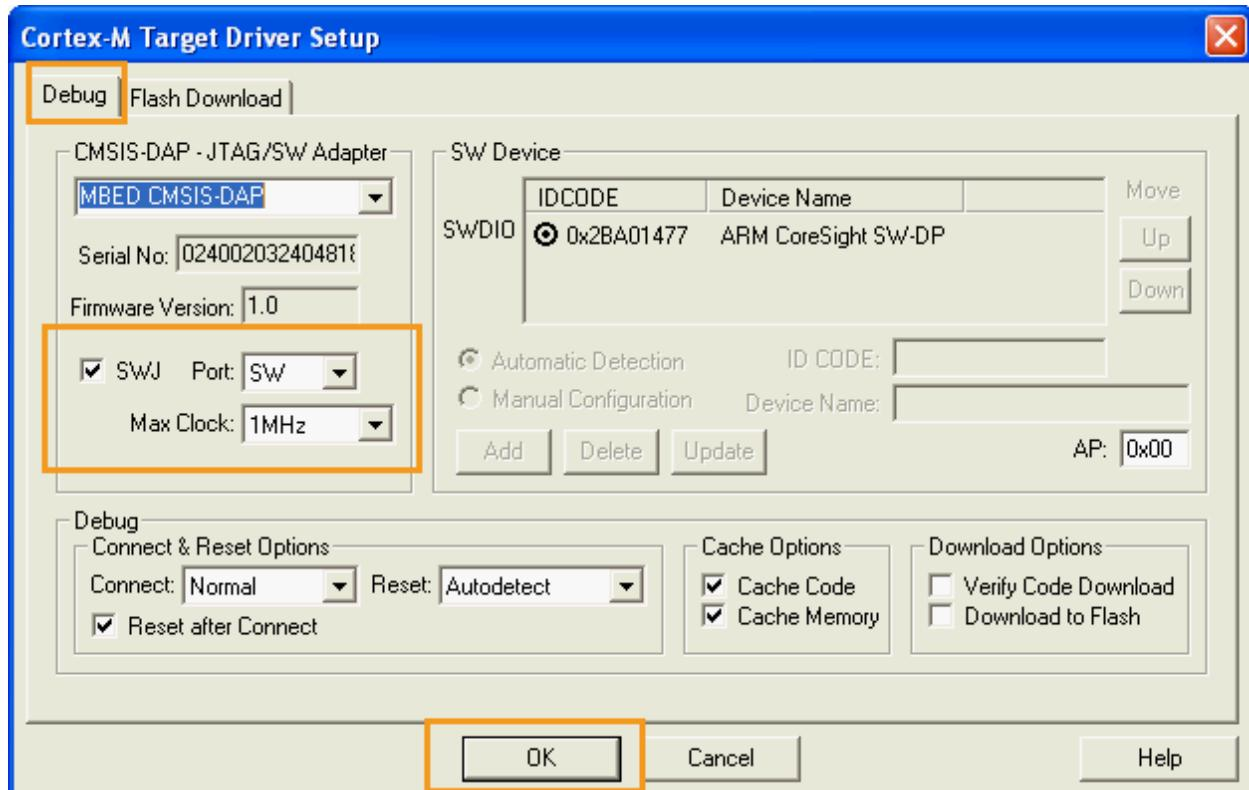

Figure 60. Setting the debug parameters on LinkIt 7687 HDK
- 7) Click **Settings** to switch to **Cortex-M Target Driver Setup**, then select **Debug** tab to set the configuration parameters and click **OK**, as shown in Figure 60.